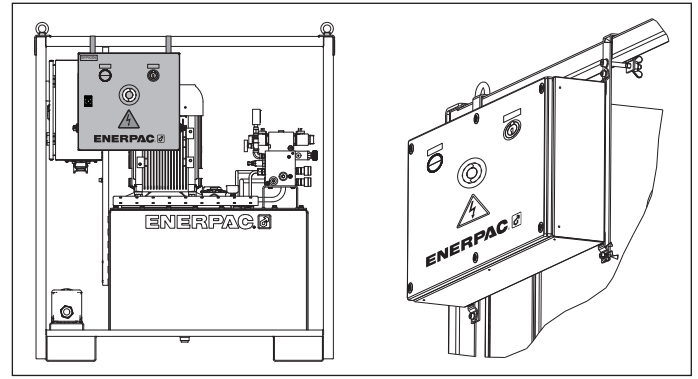

Figure 9, Attachment detail for SFPKSN
2. Attach the SFPKSN as shown in the Figure 9